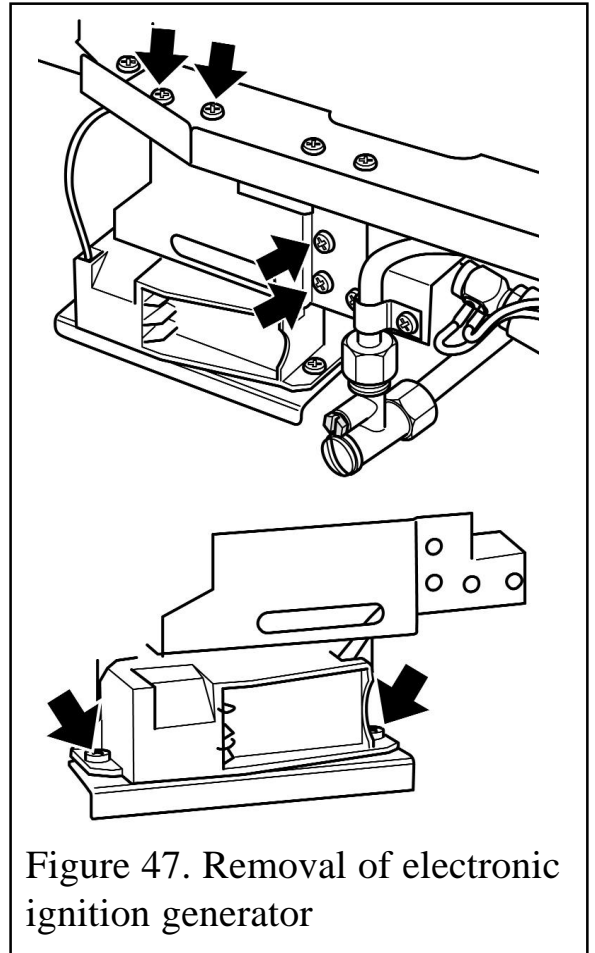

Figure 47. Removal of electronic ignition generator
5. Unscrew the four support bracket screws (See figure 47). The generator and its
6. Remove the two fixing screws that attach the generator unit to the support bracket. The igniter generator can now be removed. (See figure 47).